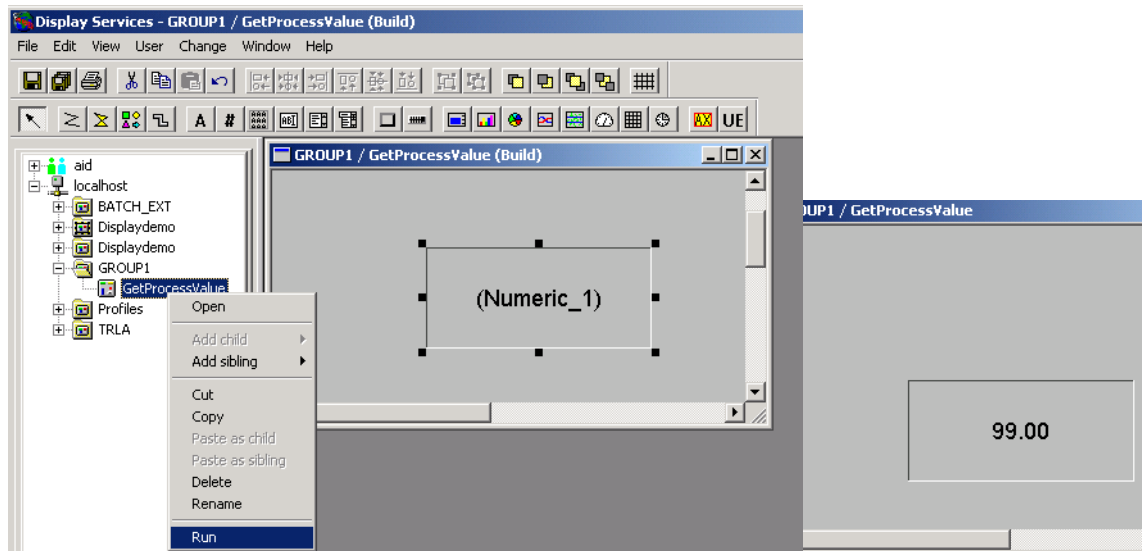

Figure 23. Running the Display
- Select the display icon in the Object Browser, right click and choose **Run** from the context menu, Figure 23. Either way the display is opened in the Run mode.